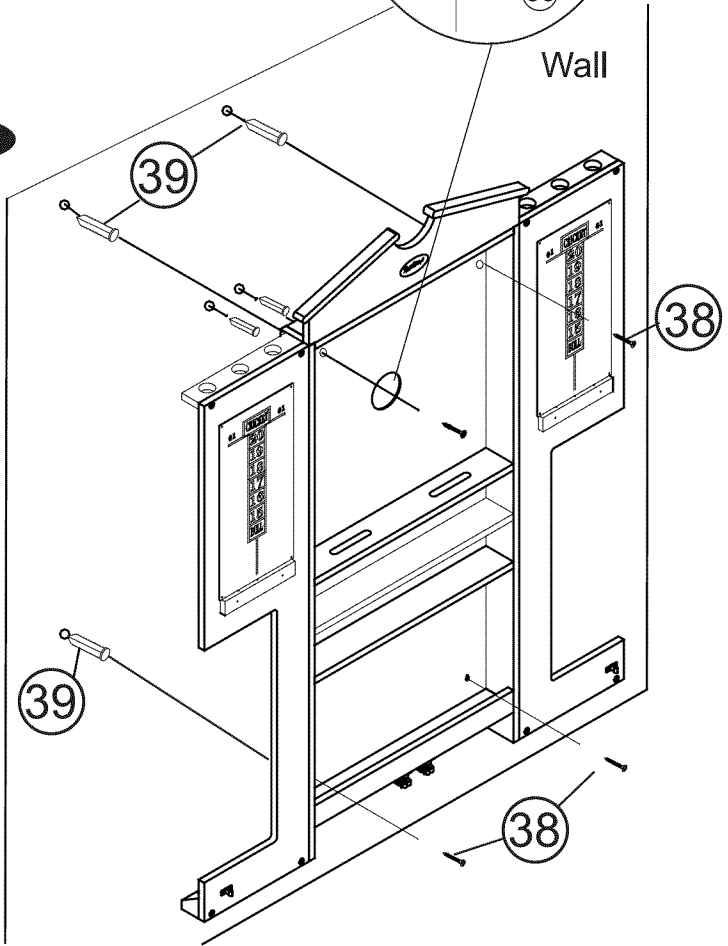

FIG. 10:
- Attach three Bumpers (#32) to the back of the Dartboard (#40) using three Nails (#33). They should each be 7½" (19.05cm) from the center hole. See Fig. 10
- Place the Dartboard (#40) onto the Mounting Bracket in the cabinet. See Figures 10 and 10A.
- Peel Eva Foam(#44) and stick on the cabinet as shown in Fig10 and 10B.